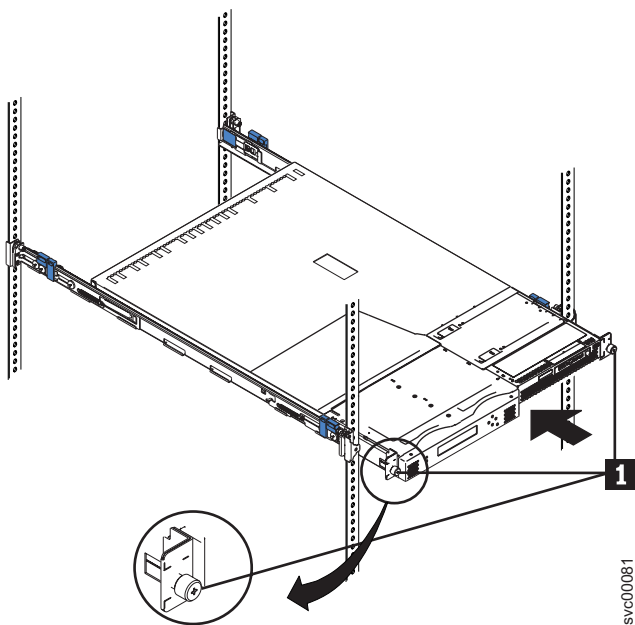

Figure 45. Sliding the SAN Volume Controller 2145-8F4 into the rack
2. Latch the two latches on the front of the rack to attach the node to the rack. (**1** in Figure 45).
**Note:** The front of the rail assembly looks different from the front, as you can see in Figure 45.